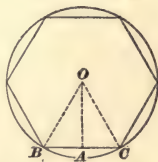

FIG. 36.
EXAMPLE.—In Fig. 36 the side BC of the regular hexagon is 12 inches and the distance AO is 10.4 inches; required the area of the polygon.
82. To find the area of a sector (a **sector** of a circle is the area included between two radii and the circumference, as, for example, the area $BACQ$, Fig. 36):